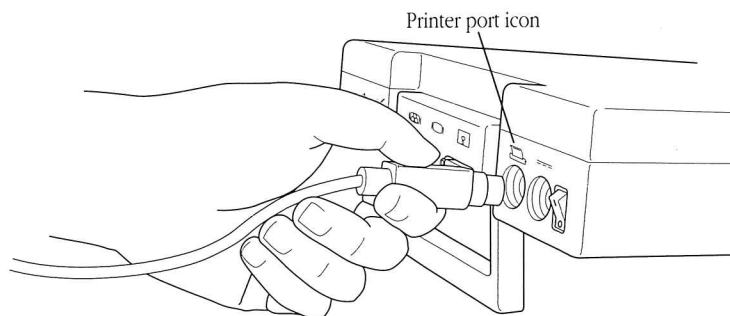

Figure 4-7 Plugging the printer cable into the Apple IIc/IIc Plus
1. Plug the free end of the printer cable firmly into the Apple IIc/IIc Plus printer port. (See Figure 4-7.)